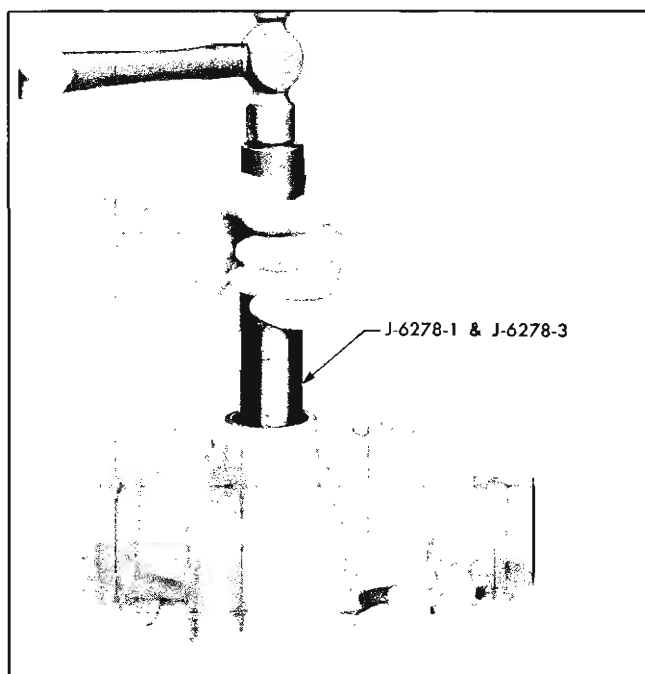

Fig. 9A-22 Installing Pitman Shaft Needle Bearing
1. With stamped end of needle bearing against shoulder of adapter J-6278-3, use Remover and Replacer J-6278-1 to drive pitman shaft needle bearing into bore from outside of housing until flush-to- $\frac{1}{32}$ " below shoulder. Make sure needle bearings rotate freely (Fig. 9A-22).